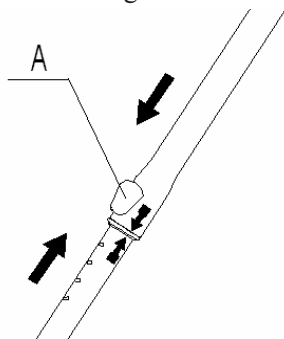

Fig.2
2. Align 2 arrows on upper and lower shaft as shown in Fig.2.